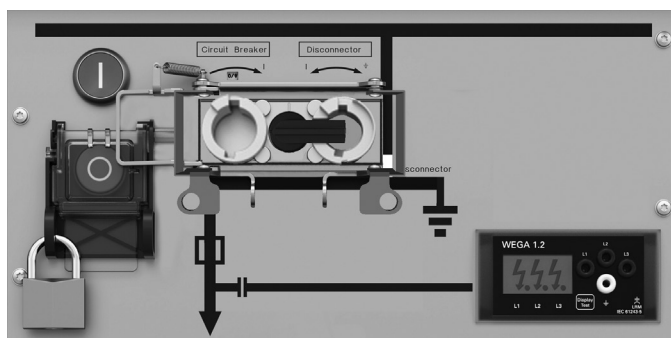

Figure 4-19: Control panel for fused load-break switch
3. Turn the selector into the full anti-clockwise position; see figure 4-19.